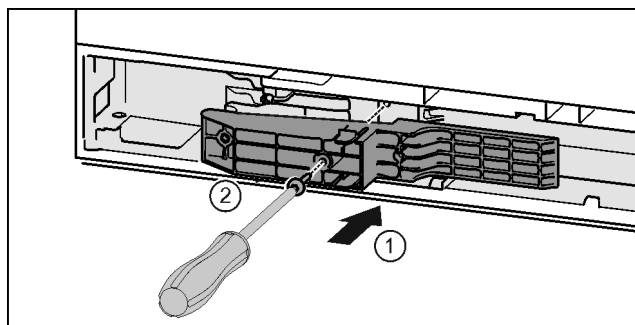

Fig. 43*
- ▶ Install the adapter on the handle side of the slot.* Fig. 43 (1)
- ▶ Tighten the screws with the T15 screwdriver.* Fig. 43 (2)